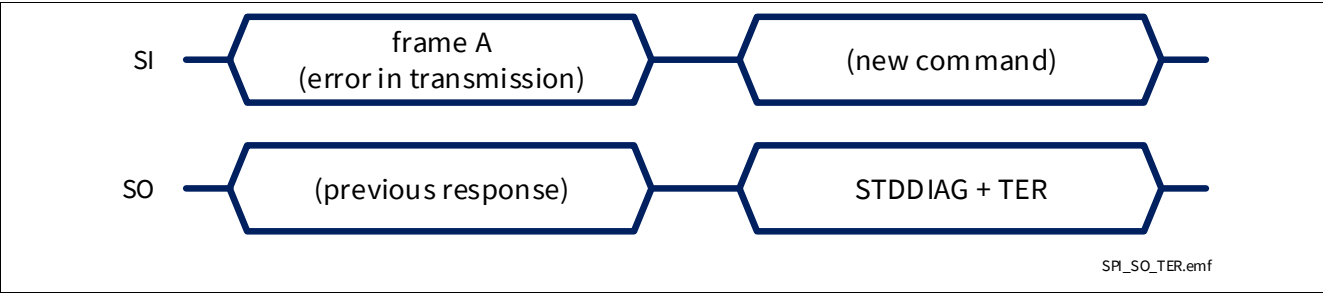

Figure 43 SPI response after an error in transmission
- In case an error in transmission happened during the previous frame (for instance, the clock pulses were not multiple of 8), shown in **Figure 43**